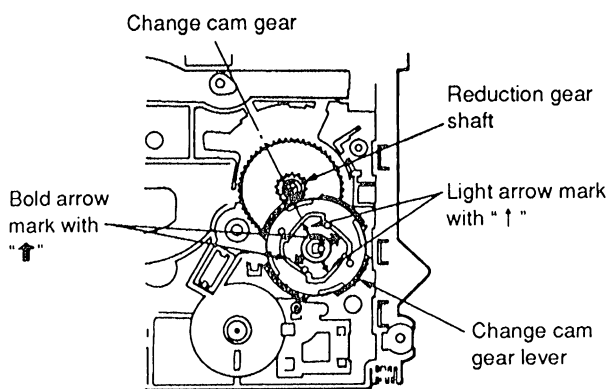

Fig.2
4. Install the change cam gear. (See Fig.2.)